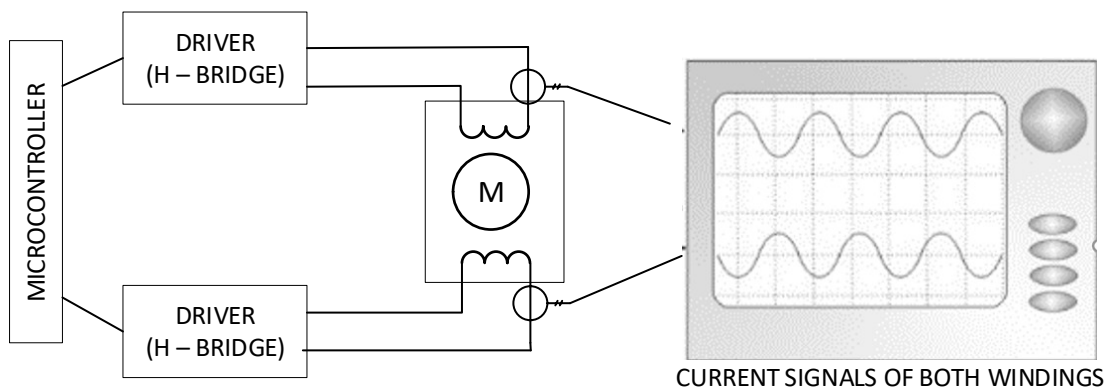
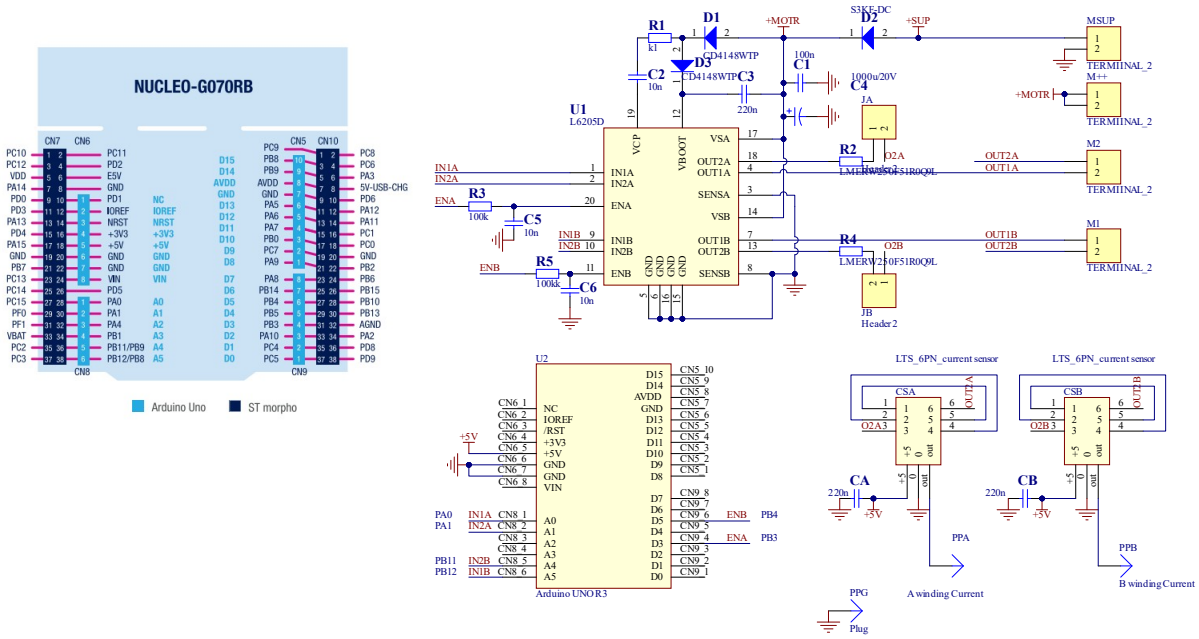
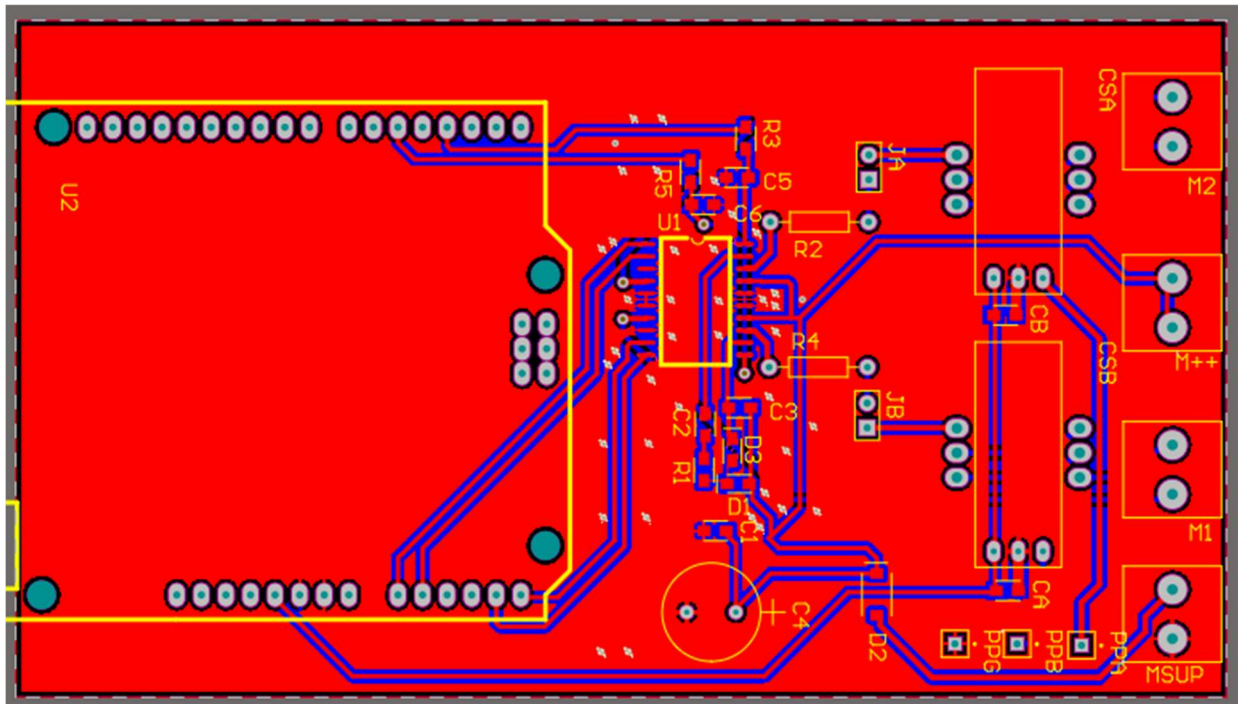

Figure 3. Measurement of stepper motor currents.
Figure 7. Schematic diagram of stepper motor driver.
Figure 8. PCB of stepper motor driver.
- d) Connect oscilloscope to PCB with motor driver as shown in Figure 3 (compare with Figure 7 and Figure 8);